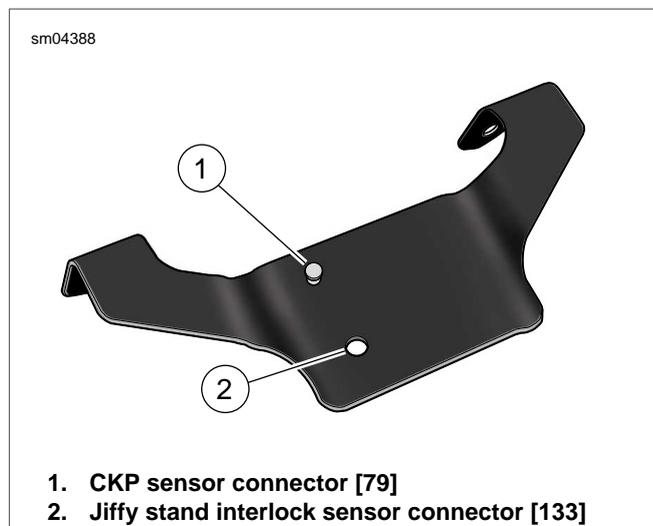

Figure 8-15. Front Caddy
3. Push CKP sensor connector [79], 2-place Deutsch, toward right side of motorcycle to disengage attachment clip from T-stud on caddy. See Figure 8-15.